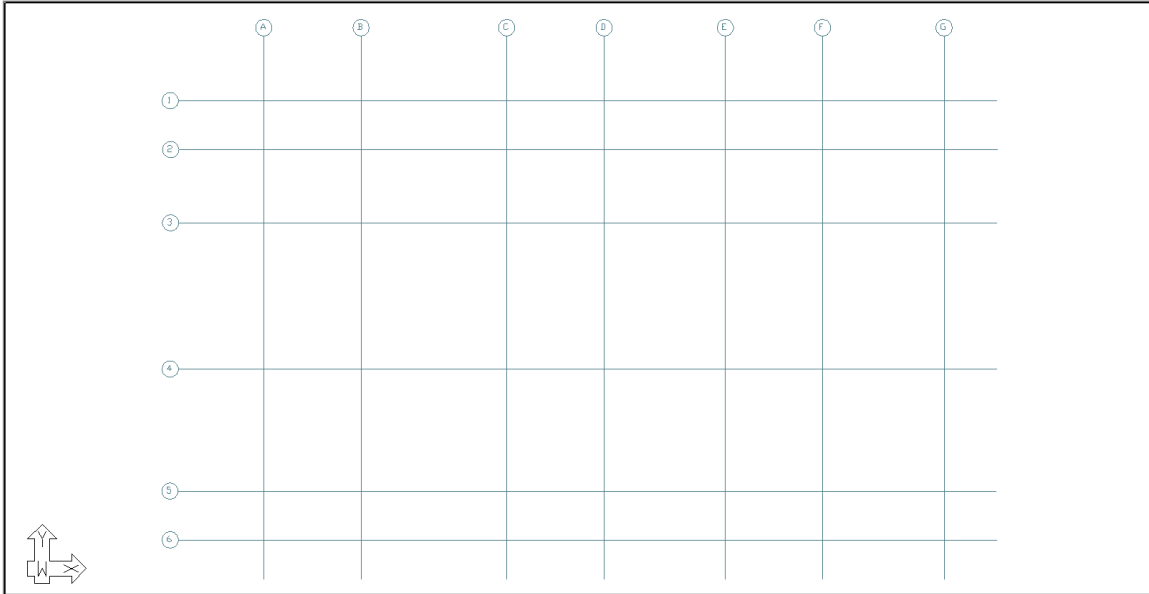

FIGURE 5-1
- Click on the **Active Level Up**  icon of the *Level Manager* toolbar until you are on the Level 4 reference plane. You should now see the level 4 plane with only gridlines on it as shown in **FIGURE 5-1**.